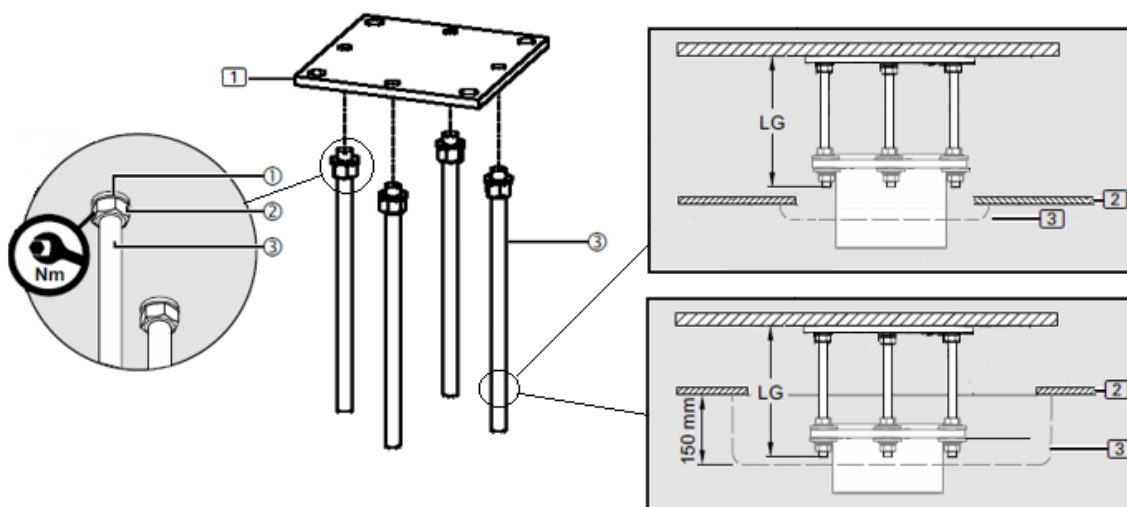

Fig. 6 Installation of interface plate in room with false ceiling
There are two different configurations if a downpipe is installed in a room with a false ceiling. One possibility is that the distance between the floor and the false ceiling completely covers the length LG of the threaded bolts (3), in this case a flat ceiling trim with a height of 10mm is supplied as shown in the upper right part of figure 6. The other possibility is that the distance between the floor and the false ceiling is not sufficient for a correct installation and energy supply passage, in this case a trim of 150mm in height can be ordered (optional) as shown in the lower right part of figure 6.
- Cut the threaded bolts M16 x 350 mm (3) to length if necessary.